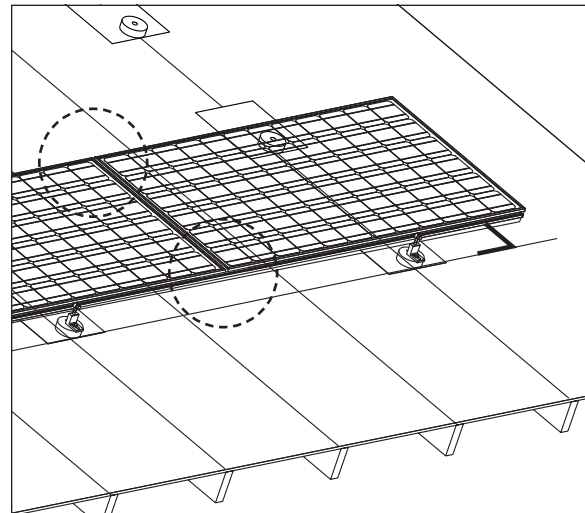

Figure 5.8B
3. Install the Interlocks where the Modules join in the East-West direction on the top and bottom of the row (Figure 5.8B). Tighten the lower Leveling Foot to the roof or attachment hardware.